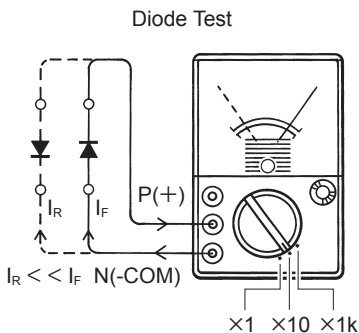

Fig.4
- (2) If the connection to the circuit is made as shown in Fig. 4, it is possible to measure the forward current I_F or reverse current I_R of a diode using the LI scale. It is also possible to measure the forward voltage V_F or backward voltage V_A of a diode using the LV scale (Fig. 4).
- (3) As described for the resistance measurements, make the ohm zero adjustment after every change of the measuring range.
- (4) The meter pointer deflects close to full scale when the forward current I_F is measured. However, it hardly deflects when the reverse current I_R is measured.